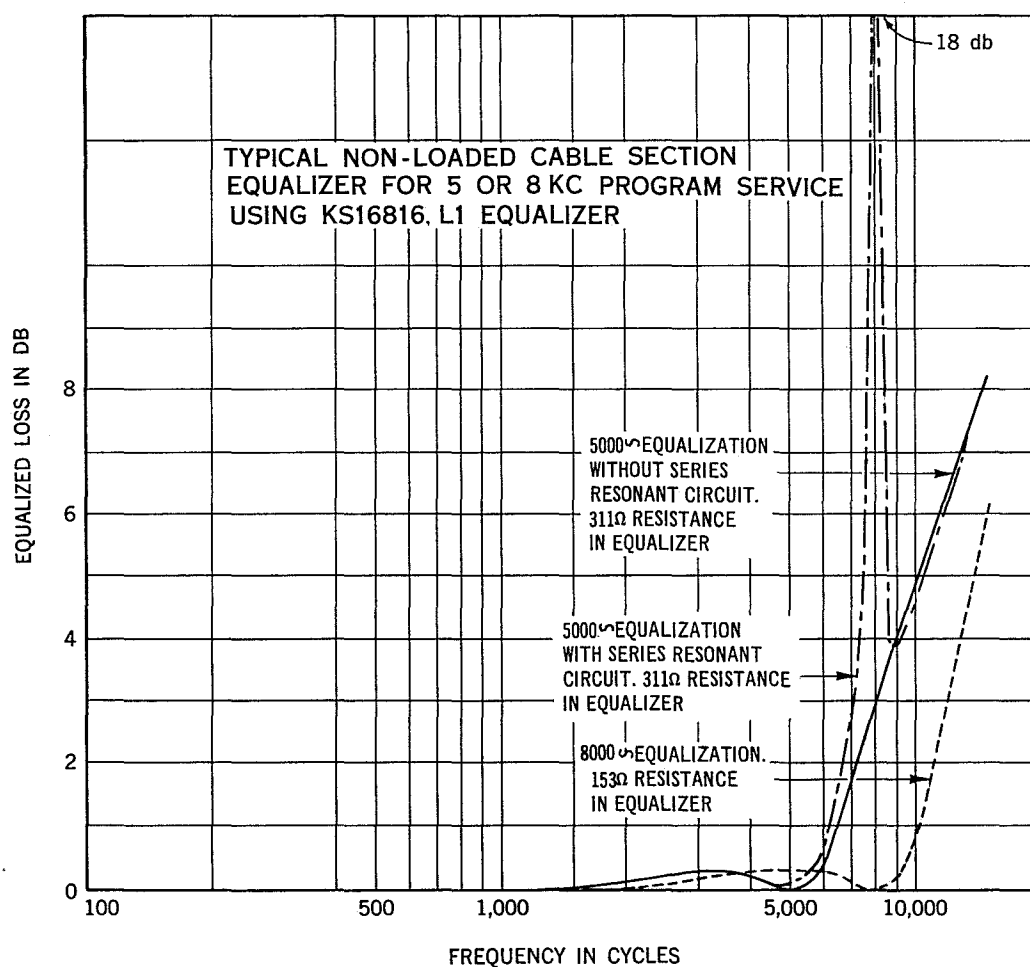
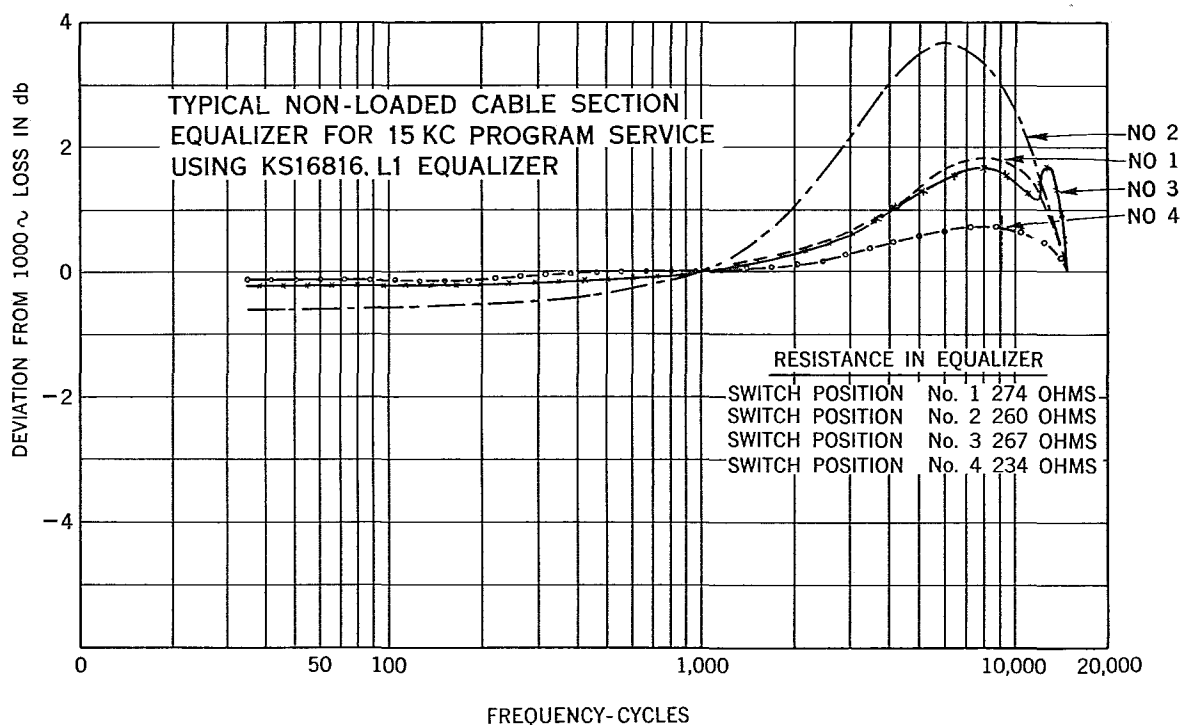

Fig. 6 — Typical Curves for Equalized 5 and 8 KC Cable Section
Fig. 7 — Typical Curves for Equalized 15 KC Cable Section
4.01 Shown in Figs. 6 and 7 are some typical curves for equalized facilities using the KS-16816, L1 Equalizer. The section measured was made up of 10,266 ft., 26 gauge cable. The data for each curve were obtained on a looped basis using a 21A Transmission Measuring Set. The time required to obtain data for each curve was about five minutes, which included setup time for the equalizer. Fig. 7 shows the effect of series resistance on the over-all equalization for a 15 KC bandwidth.